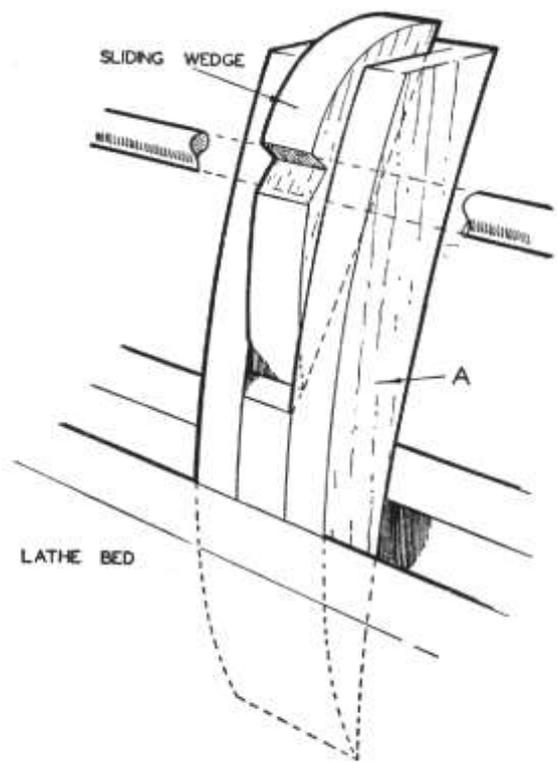

FIG. 7. SIMPLE ALTERNATIVE STEADY. Although not so effective as the steady in Fig. 6, this has its uses for some jobs.
**“Alternative steady.** If your lathe has twin beds you can make a simpler one which helps to steady the work, but is not as good. Still it has its uses as it can be quickly slipped into the bed where it is needed. Fig. 7 shows its principle. Part (A) slides down and so forces the slip against the work, but it does not prevent the work from moving up and down. Perhaps you want a simpler steady. Well a wedge inserted between the rest and work helps to do some jobs, but it burns easily as it has only a line contact.